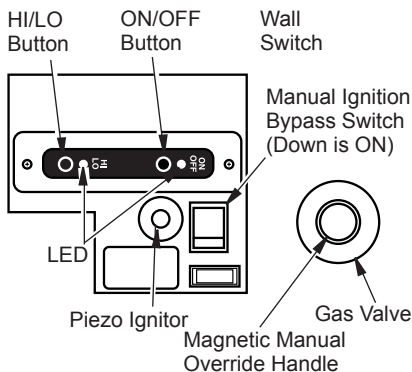

Figure 39 - Control Locations
2. Set manual ignition bypass switch on control panel to ON position (manual ignition position). See Figure 39.
4. Place the magnetic manual override handle, provided with this unit, on the end of the gas valve stem (see Figure 39).
6. While holding the valve handle in the PILOT position, press and release piezo ignitor button (see Figure 39). This will light the pilot. If needed, keep pressing ignitor button until pilot lights.